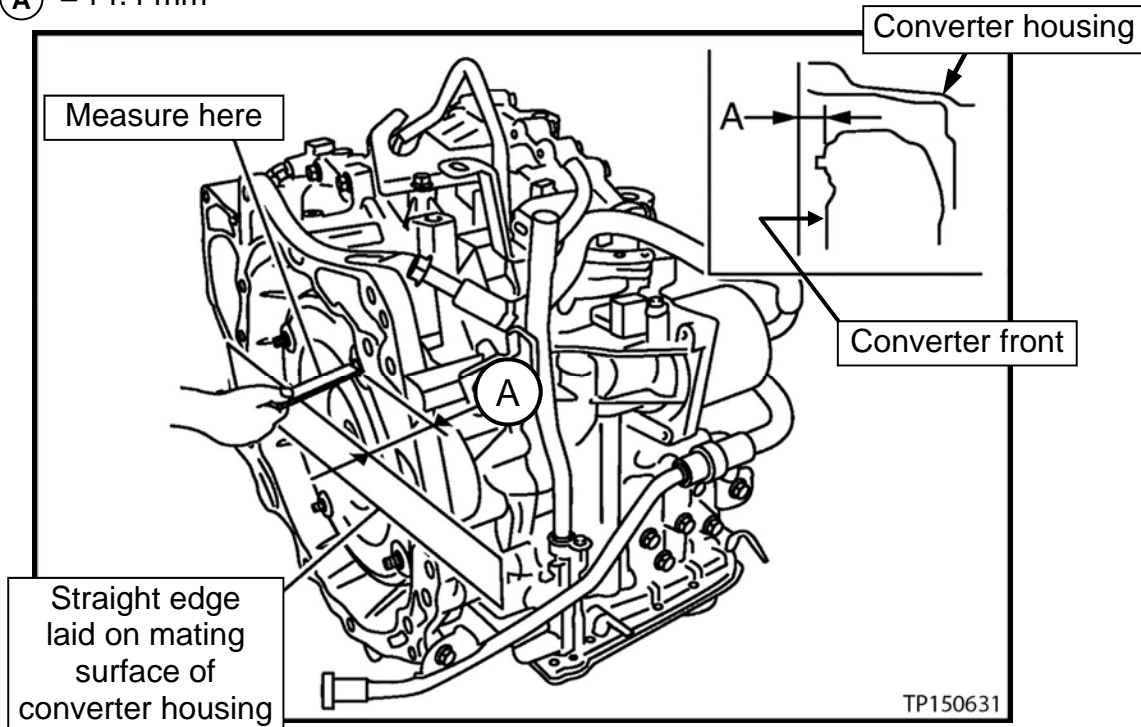

Figure 187
- Verify the torque converter is installed at the proper depth (see Figure 187).